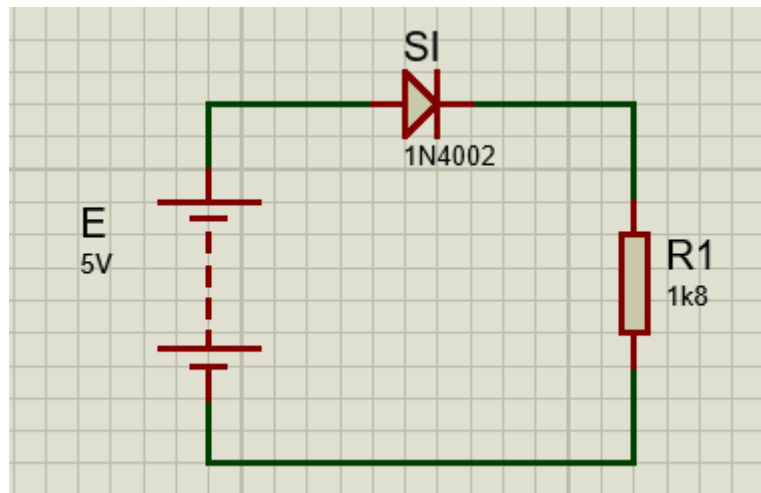

Figure 1.0
4. Construct the circuit of *Fig. 1.0* with the supply (E) is set at 5 V. Record the measured value of the resistor.